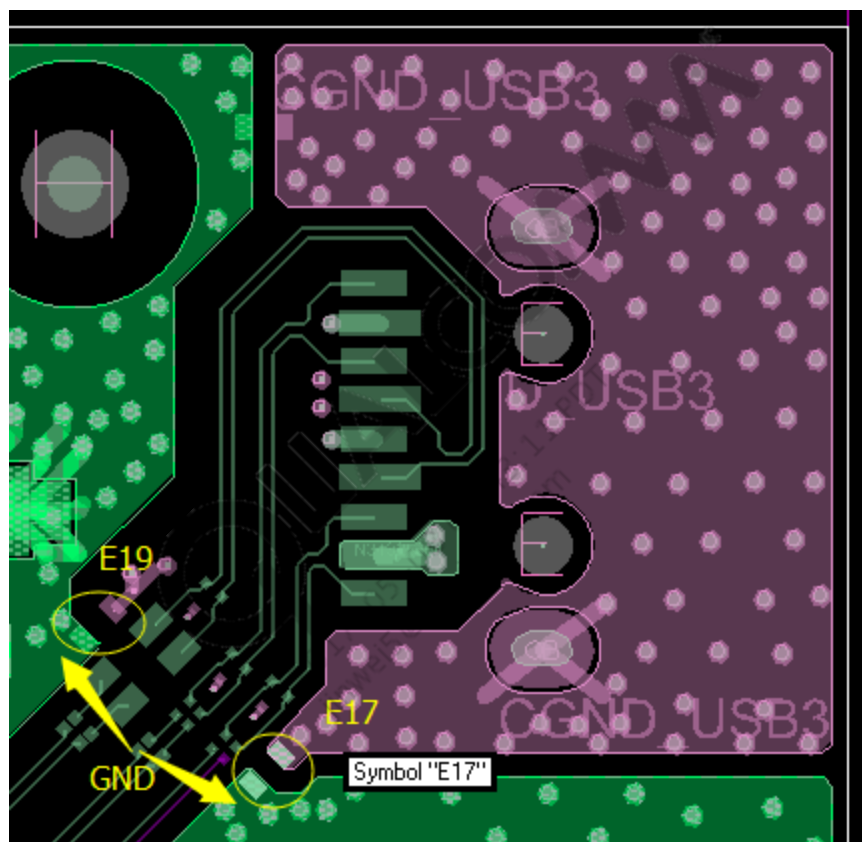

Figure 1 Connecting USB shield/chassis pins directly to board's GND
- Connect USB GND directly with system GND, then can supply low-impedance return path for USB3.0 signal. See Figure 1.